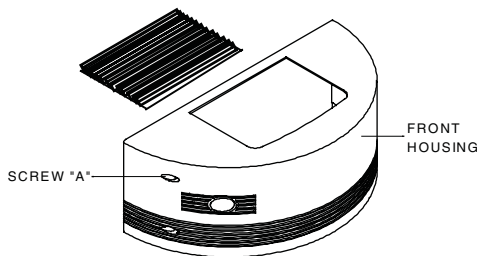
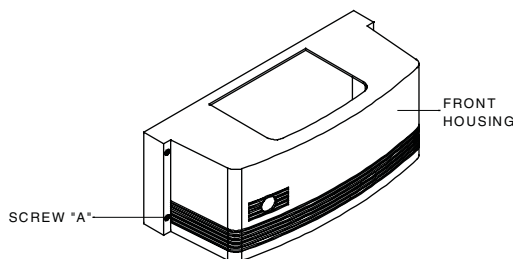

FIG. 1
FIG. 2
1. REMOVE FRONT HOUSING (FIG. 1 or FIG. 2)
Fixtures are shipped with full cutoff distribution, down light only. If up light is also desired, remove up-light shield from housing and discard, See FIG 1.